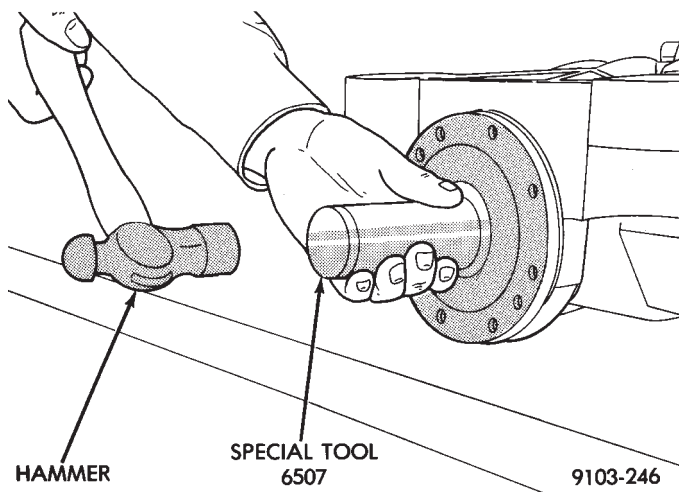

Fig. 11 Input Seal Installation
- (1) Clean and inspect seal area.
(2) Apply a light coat of oil onto the drive pinion seal and install with Seal Installer 6507. Seal must be installed with the spring side in towards the rear carrier case (Fig. 11).